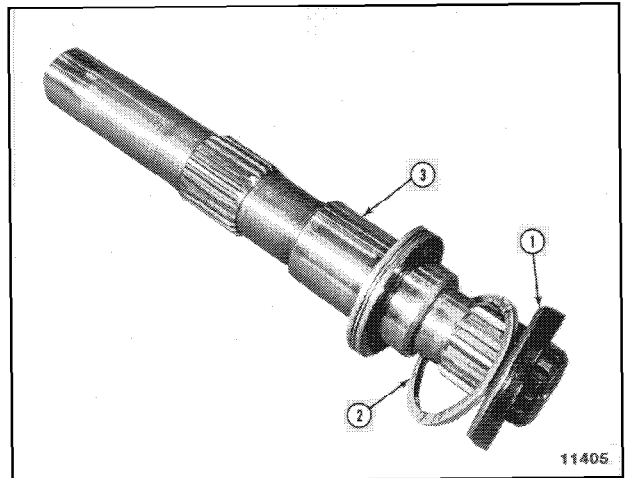

Figure 17
31. Remove shaft seal (1, Figure 17) and washer (2) from drive shaft (3).